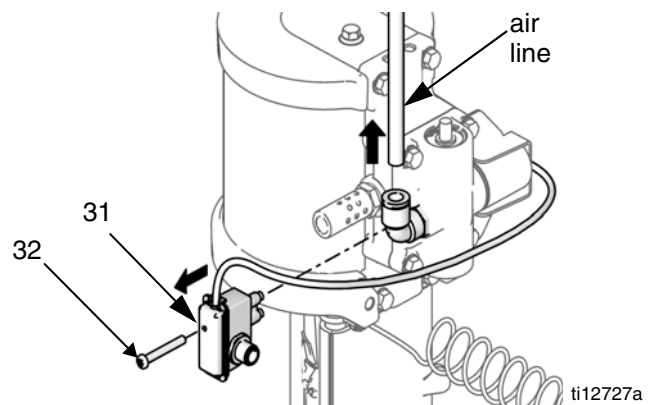

FIG. 3: Reed switch assembly & air line removal
1. **For motors with DataTrak:** Remove screw to disconnect the reed switch from the air valve. See FIG. 3, page 9.
2. Use a 10 mm socket wrench to remove four screws (18). Remove the air valve (17) and gasket (16*♦).
4. Remove four screws (18) and remove the manifold (15*) and two gaskets (14*).
5. Use a 10 mm socket wrench to remove the pilot valves (19) from the top and bottom cover.